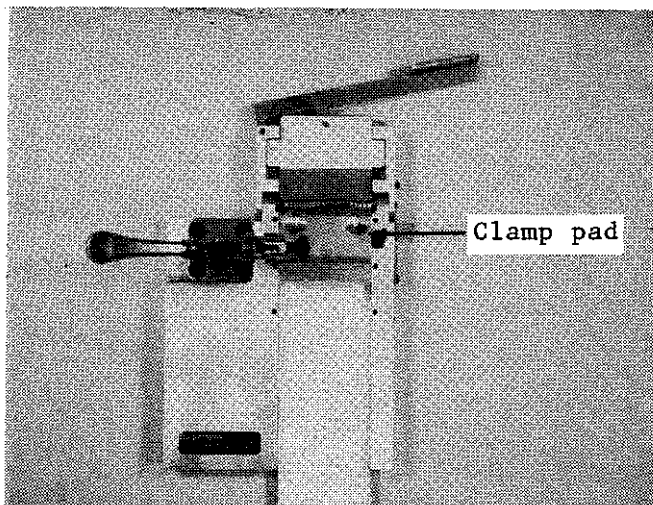

Figure 5-3. Clamp Pad Inserted Over FCC in Folding Tool
3. Insert the clamp pad over the FCC (Figure 5-3).